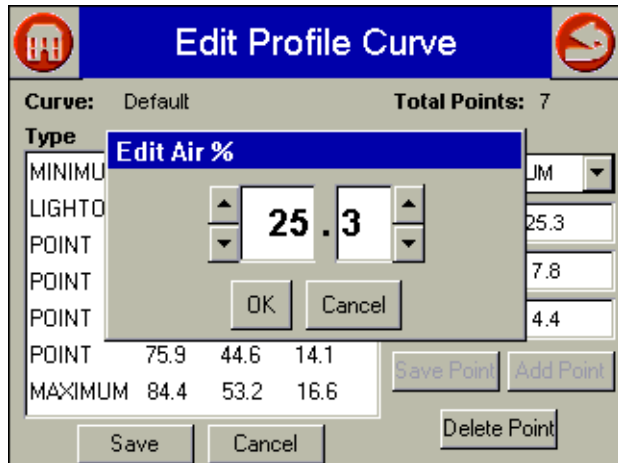

Fig. 107. Edit Air Percentage.
- If the point’s position need to be changed, select the Air%, Fuel% or FGR% text box that needs to change. An edit value dialog box displays (Fig. 107).